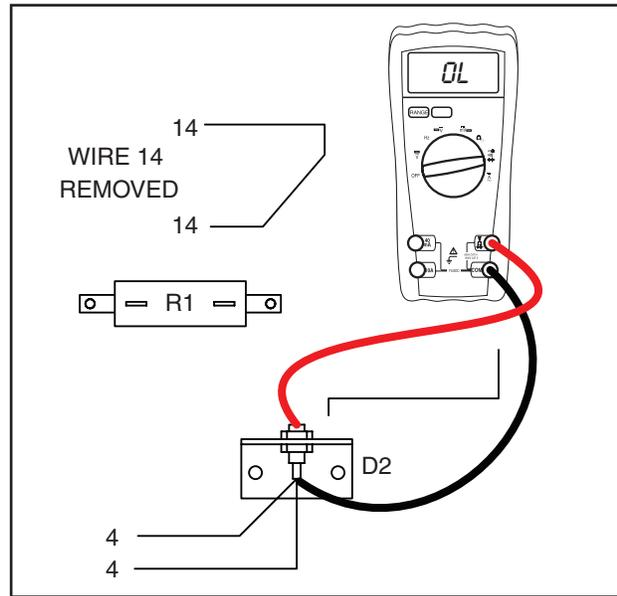

Figure 6-15. – Diode Test Step 5
5. Connect the positive meter test lead to the top terminal of the diode (D1). Connect the negative meter test lead to the bottom of the diode (D1). See Figure 6-15. INFINITY or an open condition should be measured.